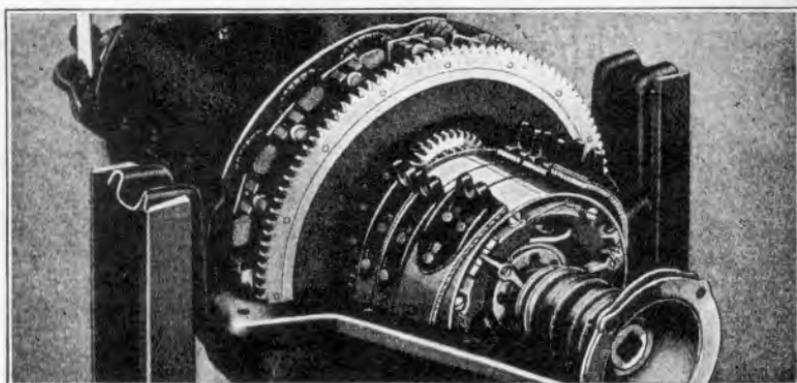

Fig. 549
- 1206** The new transmission brake band has been increased from  $1\frac{1}{8}$ " to  $1\frac{3}{4}$ " wide, an improvement which affords an exceptionally smooth and positive braking effect as well as contributing to the ease of braking. In addition, the increased width of the band (see Fig. 549) makes adjustments infrequent and materially increases the life of the lining.